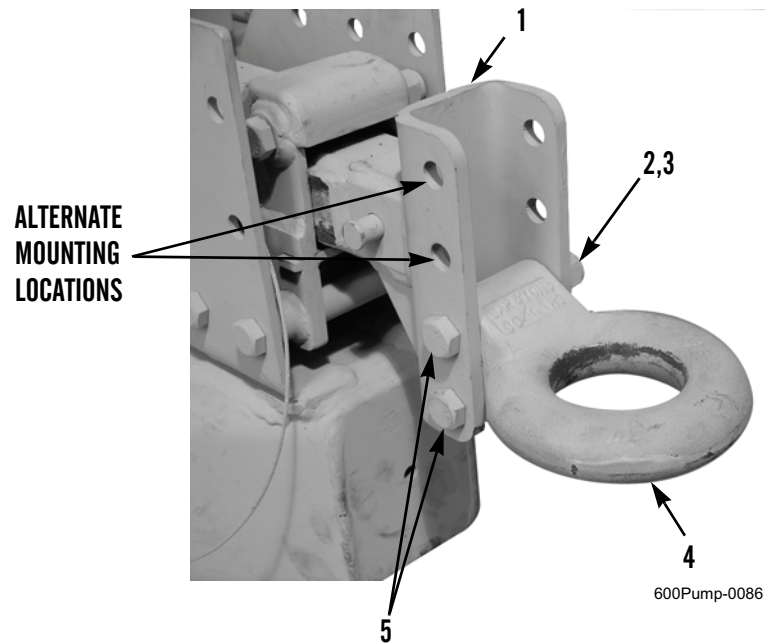

Figure 2. Lunette Ring.
1. Position lunette ring (Figure 2, Item 4) at desired height.
2. Secure lunette ring (Figure 2, Item 4) to actuator bracket (Figure 2, Item 1) with two hex head screws (Figure 2, Item 5), washers (Figure 2, Item 3), and new locknuts (Figure 2, Item 2).